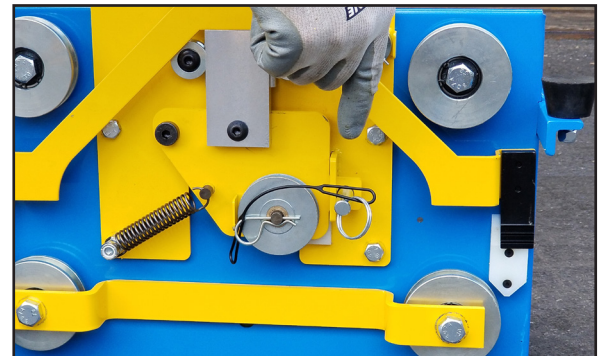

FIGURE 2
- 4.) Install the brake lockout pin by pulling the cam plate down so the holes on the cam plate match the holes on the backing plate. **If you do not install the brake lockout pin, it will be very difficult to install carriage onto track - See Figure 2**